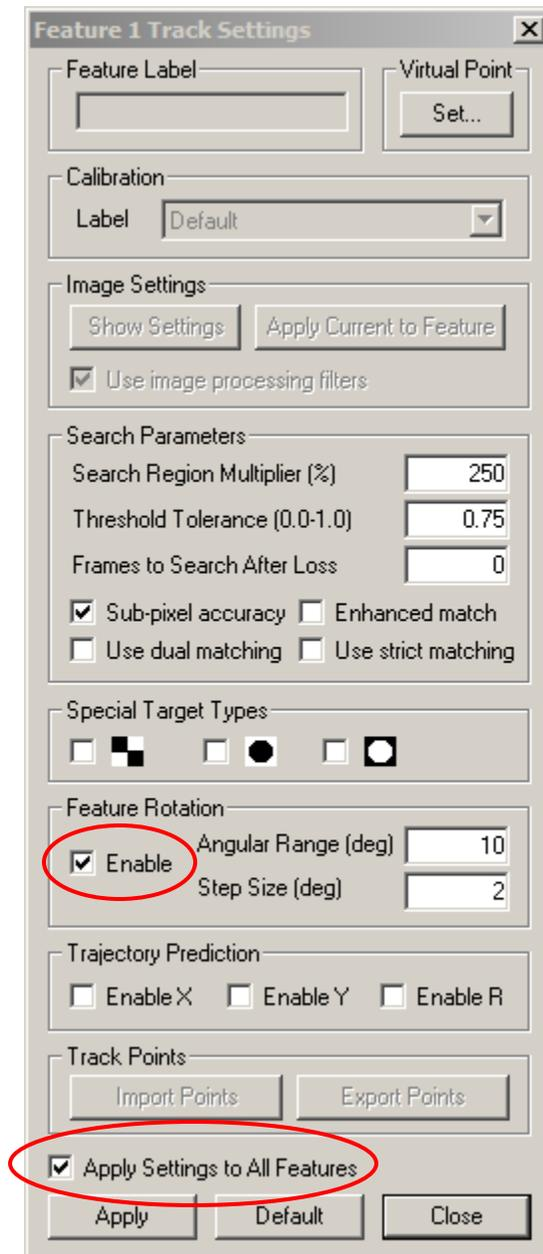

Figure 11. Feature 1 Track Settings window
8. Click on the Wrench  icon to the right of the **Feature 1** line in the Feature Tracking panel. The Feature 1 Track Settings window is displayed, as shown in Figure 11.